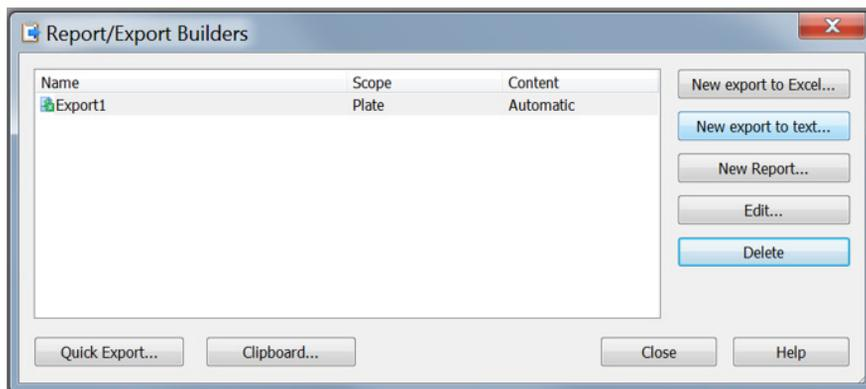

Figure 16. Exporting a Data File in Gen5 Software, Creating 'a text file exporter'.
- 2 Click on **New export to text...** when the Report/Export Builder Window opens. See **Figure 16**.